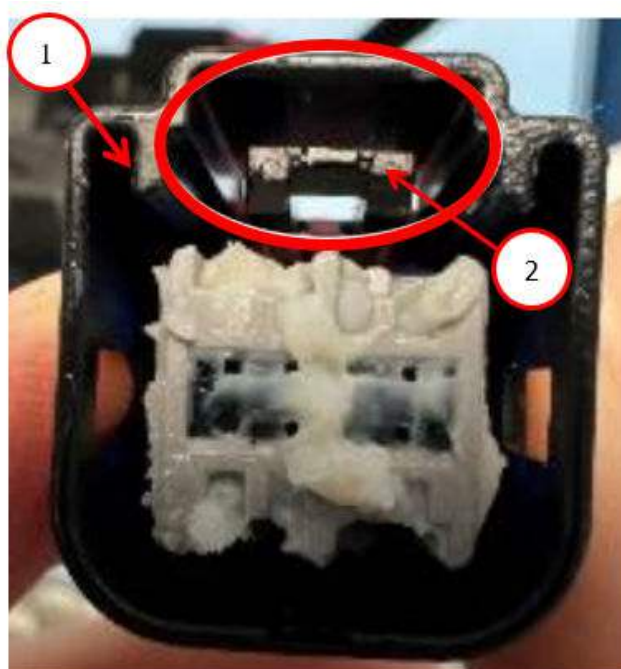

Fig. 2
7. Inspect the inside of the connector to ensure the latching feature is not damaged Fig. 2.